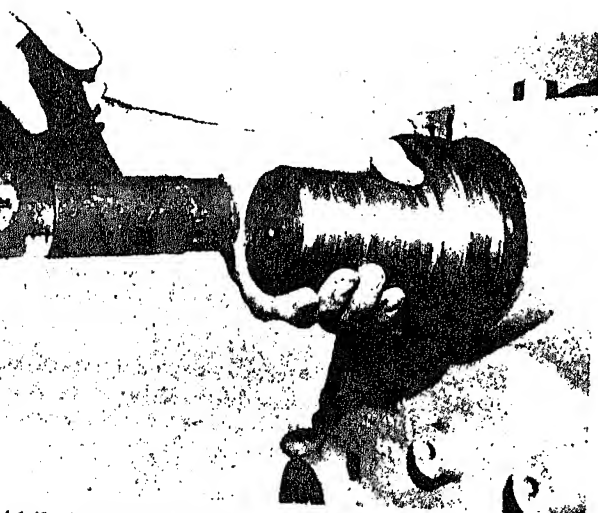

Fig. 14-1-49. Installing crankshaft oil seal
3. Install oil seal in bore with Mandrel and soft hammer, Fig. 14-1-49. Steel spring side of seal must go into bore first. Drive seal into bore until outer edge of seal is at least 0.030 in. [0.7620 mm] inside of bore shoulder.